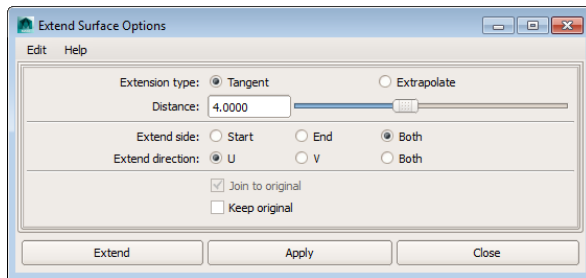
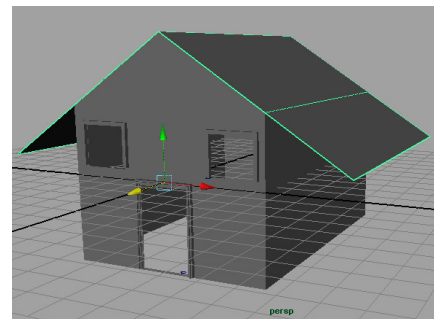

Figure 3-125 The *Extend Surface Options* dialog box
Figure 3-126 The *Extended roof* displayed
2. Make sure the roof is selected and choose **Edit > Delete by Type > History** from the menubar; the history of the roof is deleted. Choose **Edit NURBS > Extend Surfaces > Option Box** from the menubar; the **Extend Surface Options** dialog box is displayed, refer to Figure 3-125. Set the parameters in the **Extend Surface Options** dialog box, as shown in Figure 3-125, and then choose the **Extend** button; the roof is extended, as shown in Figure 3-126.